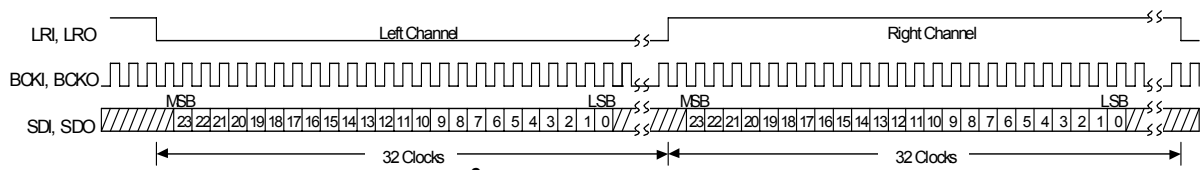
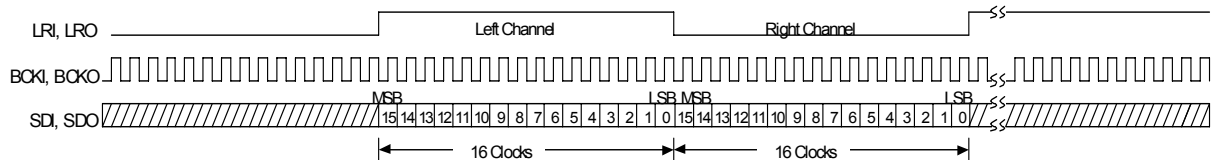

Fig.6-1 I²S Data Format 64fs, 24bit Data
Fig.6-12 Right-Justified Data Format 32fs, 16bit Data
The NJU26123 can use three kinds of formats hereafter as industry-standard digital audio data format; (1) I²S (2) Left-Justified (3) Right-justified and 16 / 18 / 20 / 24bits data length. (Fig.6-1 to Fig6-12)